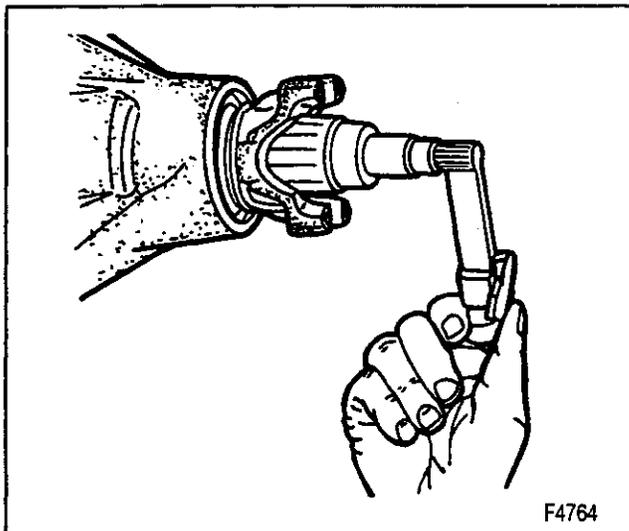

Figure 25—Measuring the Pinion Rotating Torque
**Remove or Disconnect (Figures 25, 26, 27 and 28)**
- The torque required to rotate the pinion. Record the torque value for reassembly (figure 25).